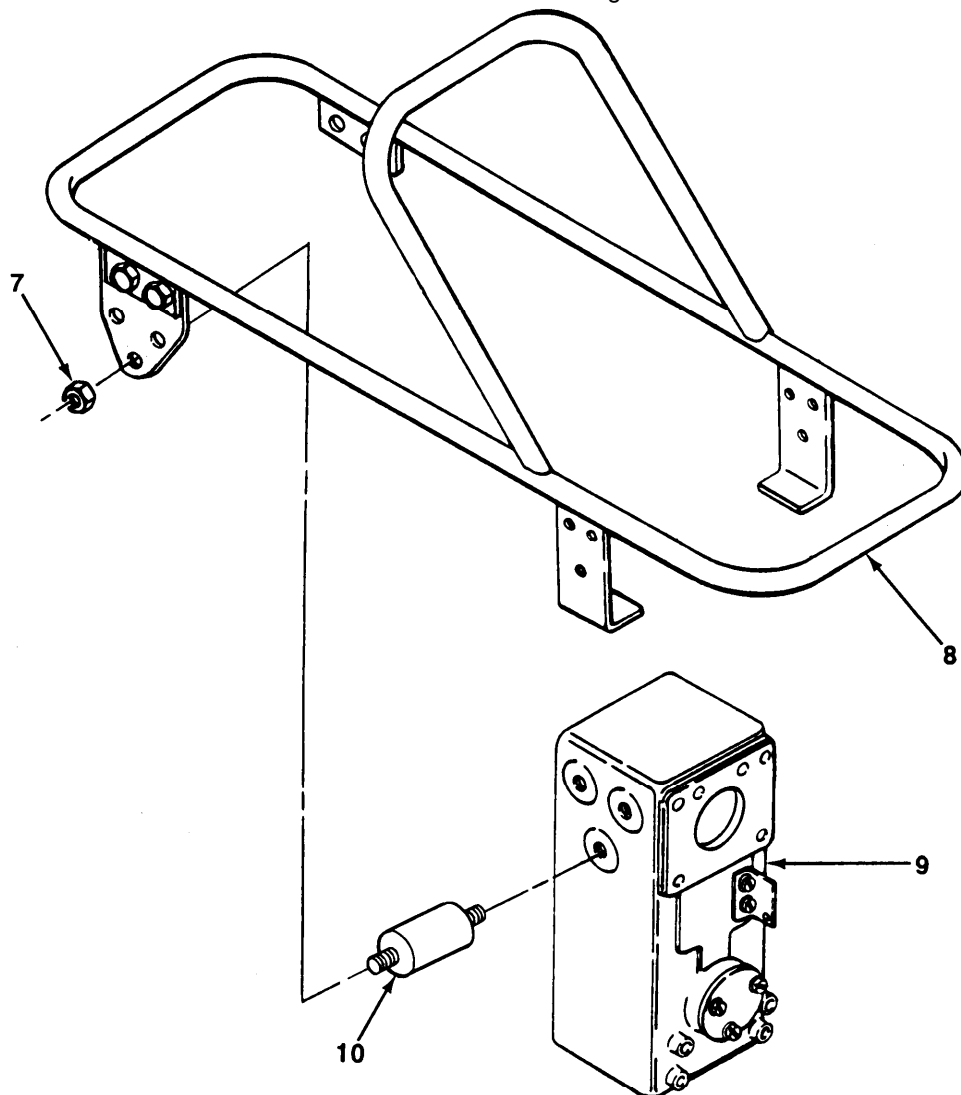

Figure 10-2. Transmission Replacement (VR11).
- Refer to Figure 10-2, *Transmission Replacement (VR11)*, for step d.
. Refer to Figure 10-2, *Transmission Replacement (VR11)*, for step a.